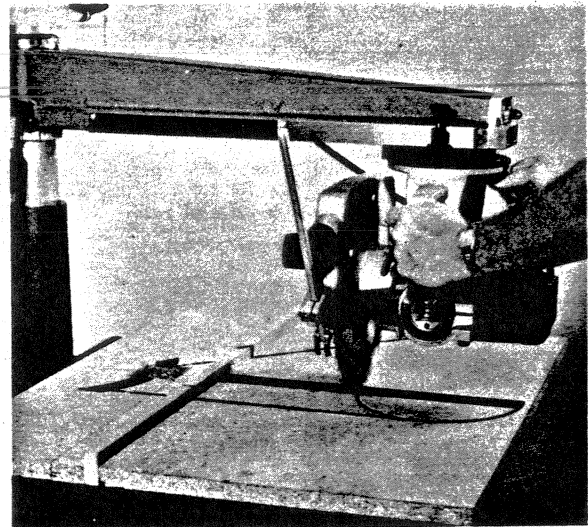

FIGURE 2
- (e) With the saw still running, release yoke clamp handle and locator pin. You can now rotate the yoke in a clockwise direction. Continue rotating the yoke until the spring mounted yoke locator pin falls into the next hole. You have now cut in the table top a $\frac{1}{4}$ turn groove known as the swing line. The saw is now in the "in-rip" position. (Refer to figure 2) Loosen Rip Lock.